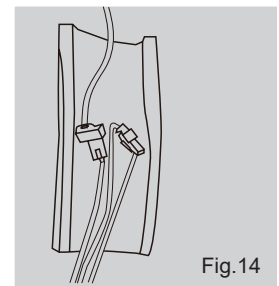

Fig.14
3. Connect the docking terminals of indoor unit and outdoor unit, see Fig.14.